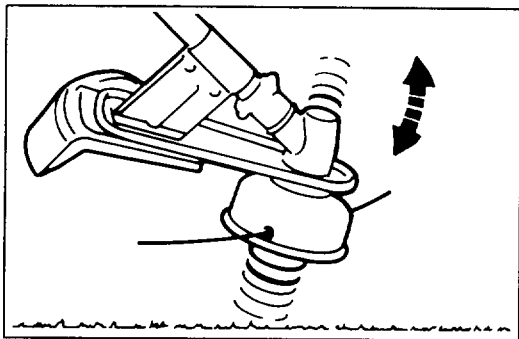

Figure 8
## LENGTHENING CUTTING LINE (Fig. 8)
1. To lengthen line, firmly tap spool on the ground with the engine running at half cutting RPM (Fig. 8). The line will be fed from the spool and cut off to the proper length by the cutting knife attached to the shield.